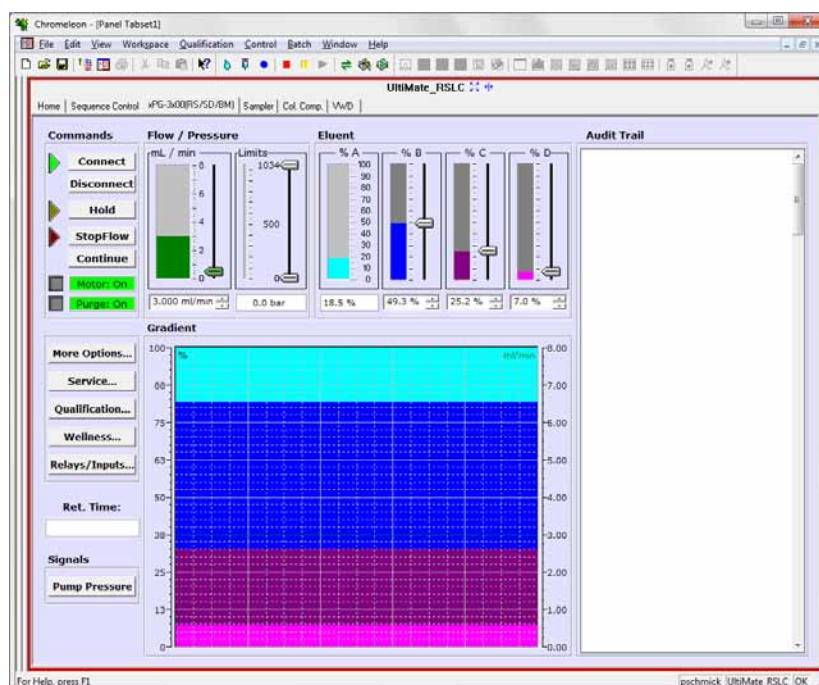

Fig. 11: Pump control panel on the panel tabset
2. On the **panel tabset** for your timebase, click the pump page (→ Fig. 11) or NCS/NCP page.